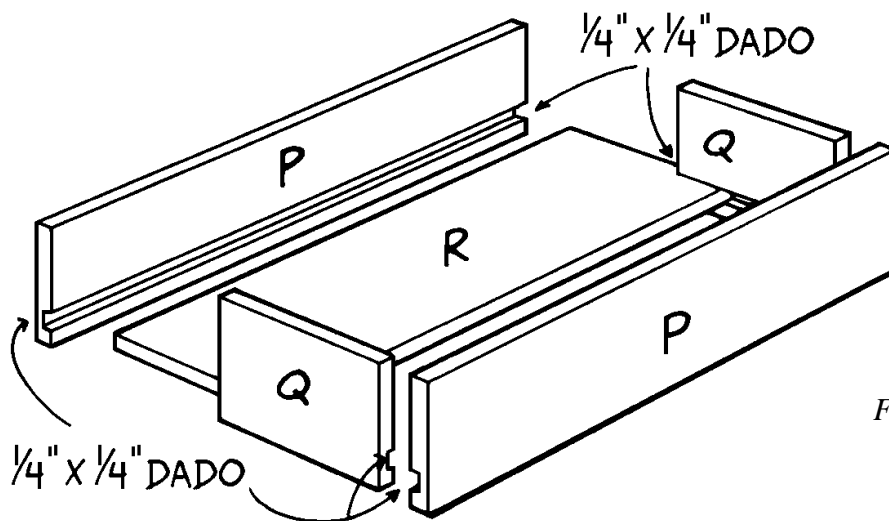

Figure 9
1. There are two identical drawers in this armoire. Both are constructed as shown in *Figure 9*. Start by cutting the following parts from 1 x 8 pine: two 35"-long drawer front/back pieces (P) and two 9"-long drawer sides (Q).
3. Cut two 9-3/8" x 33-7/8" drawer bottoms (R) from 1/4"-thick plywood. Assemble each drawer as shown in *Figure 9*. Note that the drawer front/back pieces (P) overlap the ends of the drawer sides (Q). Use glue and 3d finishing nails at each end of the overlapping boards. Leave the drawer bottoms (R) floating freely within their dados. The drawer fronts (S) will be added later.